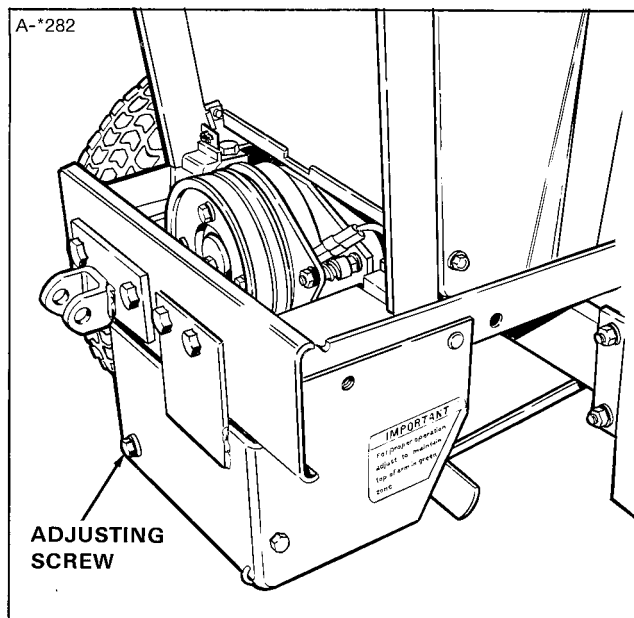

Figure 23. Belt Tension
When the mower is fully installed, the top of the belt tension arm should be in the green zone of the adjustment decal on the idler support bracket (see figure 23). If not, the belt tension needs adjustment.
- b. Remove the cotter pins and then disconnect the eyebolts or yokes (item C, figure 23) from the mower hitch.